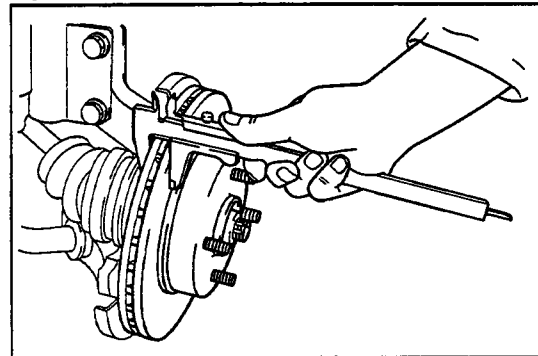

Fig. 8-98
6. Check the front disc thickness. (See Fig. 8-98.)